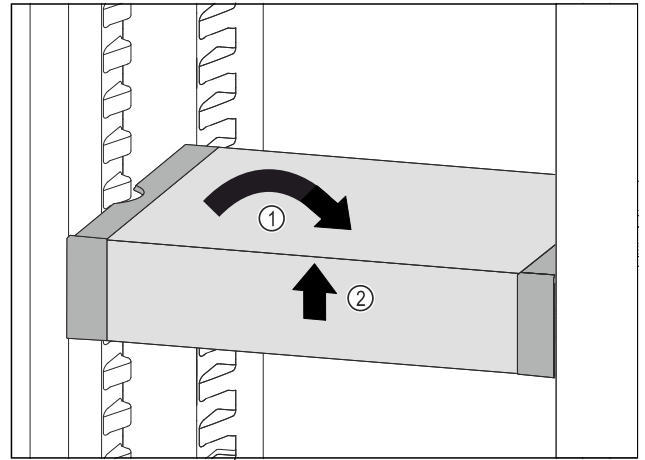

Fig. 144
- Set VarioSafe straight. Fig. 144 (1)
- Lift VarioSafe at the front. Fig. 144 (2)